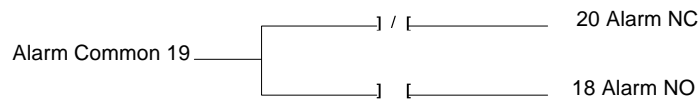

Figure 8. Lamp power fail alarm contact configuration
The second set of alarm contacts may be used to verify power has been applied to the MultiBrite System and a control signal has been applied to the Lamp Power Detection Input. This alarm output is available as a normally open (NO) relay contact and a normally closed (NC) relay contact. When power is applied to the MultiBrite System and a control signal has been applied to the Lamp Power Detection Input, the normally open contact will be energized closing the normally open contacts and opening the normally open contact will close and the normally closed contact will open. The alarm relay will be energized closing the normally open contacts and opening the normally closed contacts until power is lost in the MultiBrite System or the Lamp Power Detection Input signal is removed. These contacts may be used to control any external alarm device requiring a driving voltage less than 125 volts AC with a resistive load current less than 0.5 ampere or 110 volts DC with a resistive load current less than 0.3 ampere. Connections to the Lamp Power Alarm Relay are totally flexible for the users application. The contact configuration is illustrated in Figure 8.